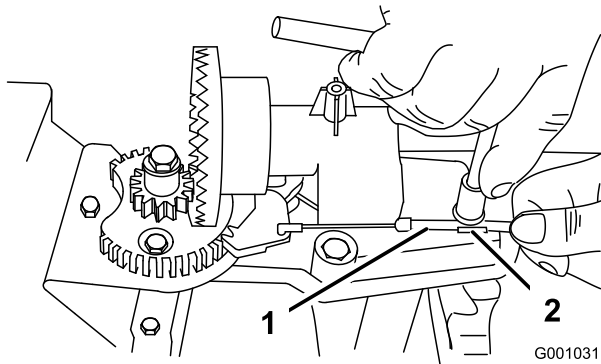
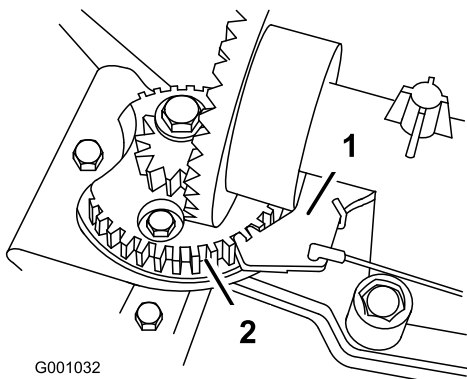

Figure 60
Figure 61
- Loosen the bolt on the cable clamp (Figure 60).
- Grasp the cable conduit and move it toward the front of the machine until the discharge chute latch fully engages the gear teeth (Figure 60 and Figure 61).
Note: The latch is spring loaded and will naturally move into the teeth of the gear (Figure 61).